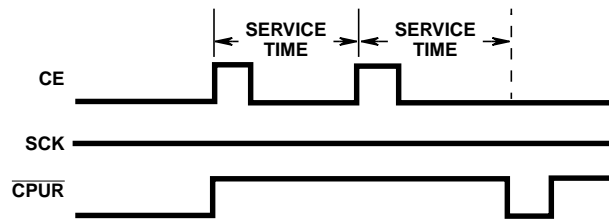

FIGURE 11. WATCHDOG OPERATION WAVEFORMS
3. Watchdog Reset (actually a non-transfer) Figure 11.
### Watchdog Reset - (See Figure 11)